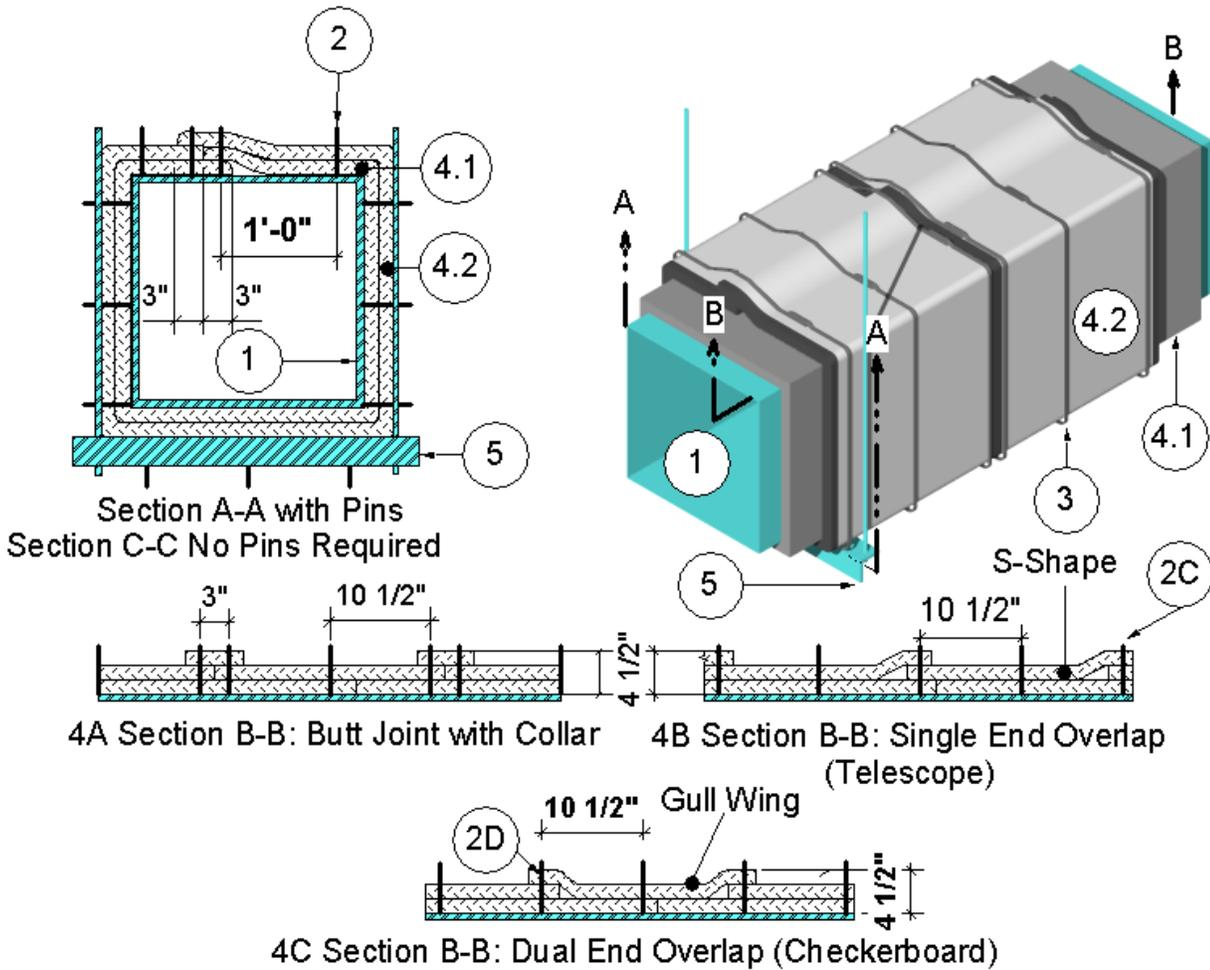

Figure 1
2. PINS: Refer to Figure 1. Use minimum 12 GA, 6-1/2 in. (165 mm) long, steel insulation pins or minimum 12 GA, steel cup head insulation pins. The length of the cup head pins may be increased if needed where the thickness of insulation is greater due to overlapping installation techniques. Weld pins to the grease duct (Item 1), if using cup head insulation pins, do so after application of duct insulation (Item 4). Match the following fastener method with corresponding duct insulation (Item 4) installation method.
- A. Butt Joint with Collar: Refer to Figure 1, 4A Section B-B. Locate pins at all blanket overlaps, on all sides of the grease duct (Item 1), and meet the following requirements.
- i. Space pins maximum 12 in. (305 mm) apart in rows around the perimeter of grease duct (Item 1). Locate pins maximum 6-3/4 in (171 mm) from the edges of the grease duct (Item 1). Refer to Figure 1, Section A-A.
- ii. Space two rows of pins 3 in. (76 mm) apart centered directly over each transverse joint and collar, and space rows a maximum of 10-1/2 in. (267 mm) apart elsewhere along the length of the grease duct (Item 1), Refer to Figure 1, 4A Section B-B.
- B. Single End Overlap (Telescope): Refer to Figure 1, 4B Section B-B. Locate pins at all blanket overlaps, on all sides of the grease duct (Item 1), and meet the following requirements.
- i. Space pins maximum 12 in. (305 mm) apart in rows around the perimeter of grease duct (Item 1). Locate pins maximum 6-3/4 in. (171 mm) from the edges of the grease duct (Item 1). Refer to Figure 1, Section A-A.
- ii. Space the rows of pins maximum 10-1/2 in. (267 mm) apart along the length of the grease duct (Item 1). Refer to Figure 1, 4B Section B-B.
- C. Dual End Overlap (Checkerboard): Refer to Figure 1, 4C Section B-B. Locate pins at all blanket overlaps, on all sides of the grease duct (Item 1), and meet the following requirements.
- ii. Space the rows of pins maximum 10-1/2 in. (267 mm) apart along the length grease duct (Item 1). Refer to Figure 1, 4C Section B-B.
- A. Banding and Pin Method: When using banding and pin (Item 2) combination, position and weld pins to the grease duct (Item 1) on bottom of grease duct for horizontal sections and on one of the wide sides for vertical sections. Space pins a maximum of 12 in. (305 mm) on center transversely and also centered at the overlaps of the duct insulation (Item 4) as indicated by the installation method chosen. Space pins maximum 10-1/2 in. (267 mm) apart to create rows of pins along the length of the grease duct. Locate pins maximum 12 in. (305 mm) from the edges of the grease duct. No other pins are required. Overlap all duct insulation joints a minimum of 3 in. (76 mm) Secure the duct insulation to the pins with 2-1/2 in. (64 mm) square or round galvanized steel speed clips. Turn down or cut off pins that extend beyond the duct insulation. After duct insulation is installed, apply banding. Locate bands 1-1/2 in. (38 mm) from each edge of the outer layer duct insulation (Item 4), centered on the overlap. For the butt joint with collar insulation method (refer to Item 4A and Figure 1, 4A Section B-B) ensure that a band is placed over the collar on each side of the joint such that the bands replace the two sets of pins (Item 2) required when using the pin (Item 2) method.
- B. Banding Only Method: Use banding only method as an alternative duct insulation (Item 2) fastening method, only when the grease duct (Item 1) width and height are both less than or equal to 24 in. (610 mm). After second layer of duct insulation (Item 4) is installed, apply banding. Locate bands 1-1/2 in. (38 mm) from each edge of the duct insulation (Item 4), centered on the overlap. For the butt joint with collar insulation method (refer to Item 4A and Figure 1, 4A Section B-B) ensure that a band is placed over the collar on each side of the joint such that the bands replace the two sets of pins (Item 2) required when using the pin (Item 2) method. For the compressed butt joint insulation method (Item 4D), ensure that banding is located nominal 2-1/2 in. (64 mm) on center from each side of the compressed joint. For insulation methods with overlapping joints (Items 4A to 4C) place additional banding in the field area between the overlaps spaced a maximum of 10-1/2 in. (267 mm) on center. For the
compressed butt joint insulation method (Item 4D) place additional banding in the field area between the compressed joints spaced a maximum of 9 in. (229 mm) on center. Refer to Figure 1, Section C-C. No pins (Item 2) are required when this banding option is used.
DUCT INSULATION: Apply two layers of the nominal 1-1/2 in. (38 mm) thick, 6 pcf density (96 kg/m³) duct insulation over the entire surface of the grease duct (Item 1). Apply the first layer of duct insulation with longitudinal joints overlapping a minimum of 3 in. (76 mm) and transverse joints butted with the following exception: when Banding and Pin Method (Item 3A) is used for grease ducts having a cross-sectional dimension greater than 24 in. (610 mm) install transverse joints with a minimum overlap of 3 in. (76 mm). Offset the second outer layer (Figure 1, 4.2) one half the width of the inner first layer (Figure 1, 4.1) so that the joints of the inner first layer (Figure 1, 4.1) are covered by and approximately in the center of the second outer layer (Figure 1, 4.2). Apply the second layer (Figure 1, 4.2) using one of the methods (A, B or C) described below. Use blanket, available in various widths, that is fully encapsulated with a polypropylene-foil scrim. Wrap one layer of insulation around the grease duct (Item 1) perimeter so that each terminating end of duct insulation overlaps onto the starting end of duct insulation a minimum of 3 in. (76 mm) at all longitudinal joints. Stagger the longitudinal overlap location so that no two consecutive adjacent overlaps align. Refer to Figure 1, 4A Section A-A for transverse overlap section view. Cover all visually-exposed ends and edges of duct insulation with nominal 4 in.
- A. **Butt Joint with Collar:** Refer to Figure 1, 4A Section B-B. Wrap the grease duct (Item 1) with two layers of duct insulation installed with butt joints at all circumferential joints. Apply the first layer, center pieces of duct insulation over 3 in. (76 mm) wide pin bay. Butt each end of each piece of duct insulation together with preceding edge of duct insulation. Each piece of installed duct insulation width is its nominal width. (Example: each piece of nominal 24 in. (610 mm) wide duct insulation when installed is 24 in. (610 mm) wide.) Offset the second layer of duct insulation so that the butt joint of the first layer of duct insulation is centered under the second layer of duct insulation and install in same manner as first layer of duct insulation. Place and center 6 in. (152 mm) wide collar of duct insulation over the butt joint. Overlap 6 in. (152 mm) wide collar onto each adjacent duct insulation 3 in. (76 mm). Verify all duct insulation butt joints with collars are three layers of duct insulation in overall thickness.
- B. **Single End Overlap (Telescope):** Refer to Figure 1, 4B Section B-B. Wrap the grease duct (Item 1) with two layers of duct insulation. Install first layer of duct insulation with transverse joints butted and longitudinal joints overlapping a minimum of 3 in. (76 mm). Install second layer using the following installation technique:
- i. Starting at one end of the grease duct (Item 1), apply the first piece of duct insulation around the grease duct (Item 1) overlapping on itself by minimum 3 in. (76 mm) which must be located at the pins (Item 2). Refer Figure 1, Section A-A.
- ii. Position and overlap the leading edge of the second piece of duct insulation nominally 3 in. (76 mm) over the flush edge of the first piece of duct insulation. Place the opposite edge of the second piece of duct insulation flush against the surface of the first layer of duct insulation. An “S-shaped” cross section of the duct insulation is created. Refer to Figure 1, 4B Section B-B.
- C. Dual End Overlap (Checkerboard): Refer to Figure 1, 4C Section B-B. Apply the first layer of duct insulation with transverse joints butted and longitudinal joints overlapping a minimum of 3 in. (76 mm). Install second layer using the following installation technique: After installation, verify all duct insulation overlaps are three layers of duct insulation in overall thickness.